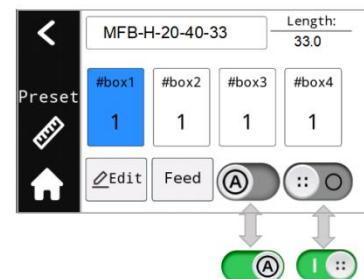

Figure 5a
1) Tap  on the home page to enter the mode. (Figure 5a)